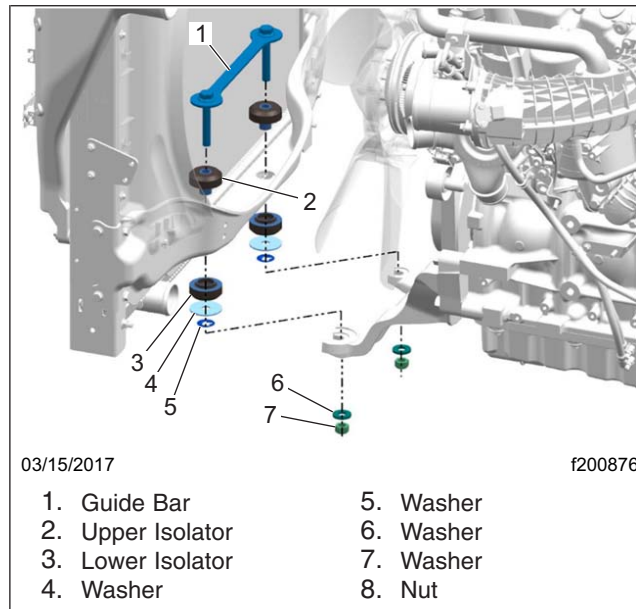

Fig. 11, Radiator Lower Mounts
17. Unbolt the radiator from the lower mounts. See Fig. 11.